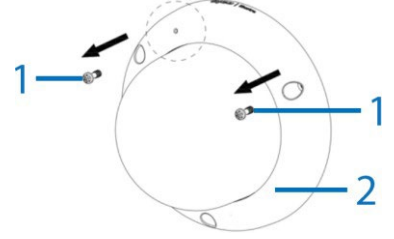

Figure 10
1. Use the T20 screwdriver and remove the two M4 captive screws (1) (Figure 10) on the camera top cover (2) (Figure 10).